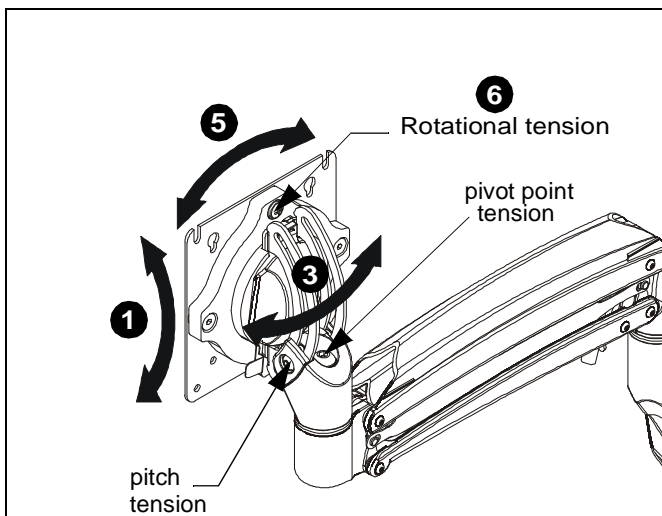

Figure 19
- Adjust pitch to desired tilt position. (See Figure 19)
- Adjust pitch tension screw to change the adjustment tension. (See Figure 19)
- Adjust pivot position as desired. (See Figure 19)
- Use 3/16" hex key (Q) to adjust pivot point tension screws to change pivot adjustment tension. (See Figure 19)
- The monitor may be adjusted 90 degrees in either direction in order to provide a portrait view of the monitor. (See Figure 19)
- Use 3/16" hex key (Q) to adjust rotational adjustment screw to adjust rotational tension. (See Figure 19)